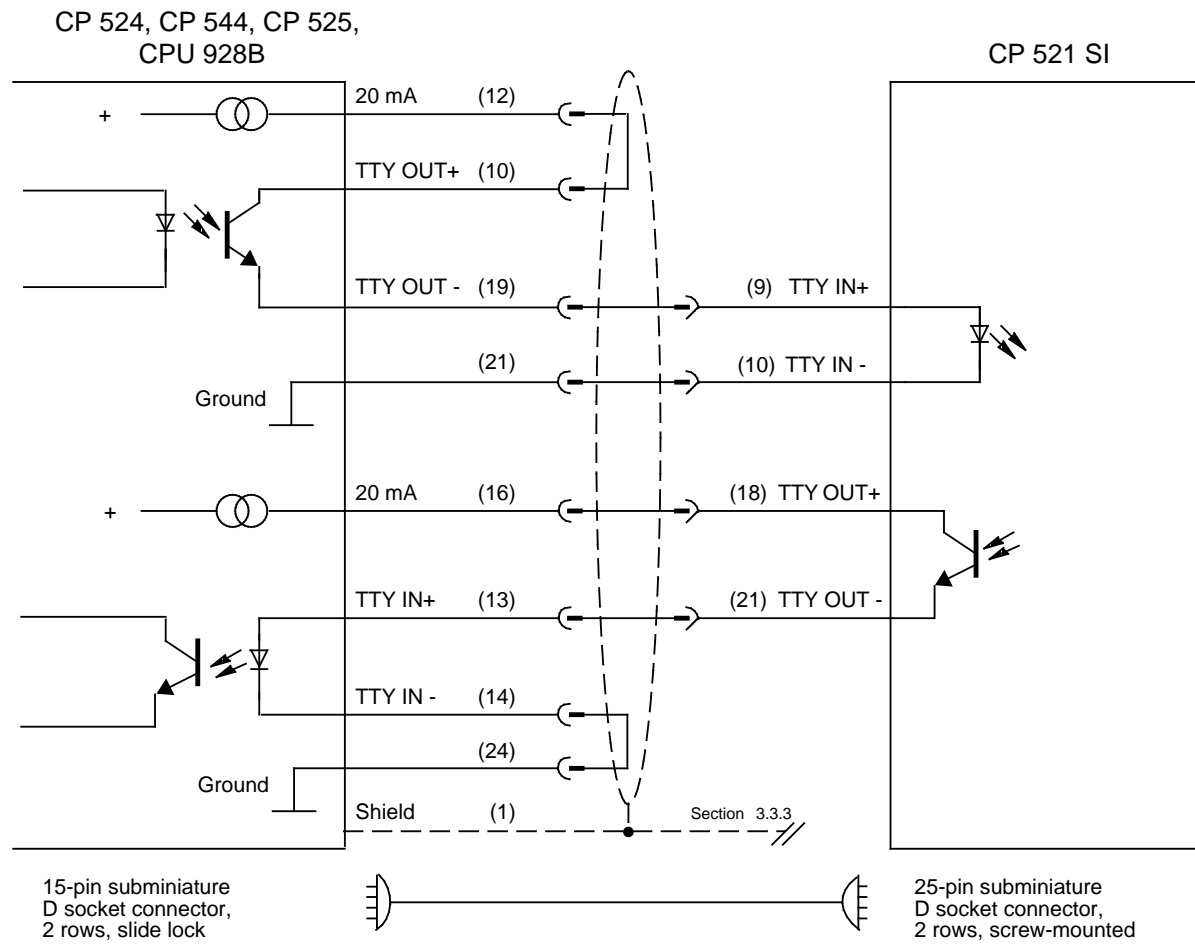

Figure D-3. Terminal Diagram CP 524, CP 544, CP 525 and CPU 928B (TTY Active) - CP 521 SI (TTY Passive)
- Connecting cable No. 9AB4173- ____ - ____ Cable for connecting the CP 521 SI to a **CP 524, CP 544, CP 525, CPU 928B, TTY** (Figure D-3)